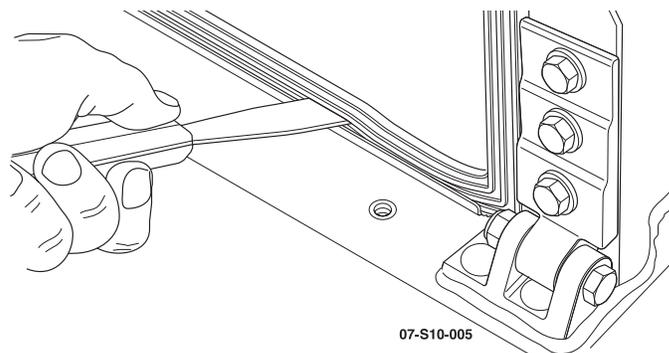

Figure 7: Weather Strip Adjustment
6. Using a thin flat blade tool, raise the leading edge of the bottom of the weather strip slightly to reestablish a tight seal against the glass (See Figure 7).